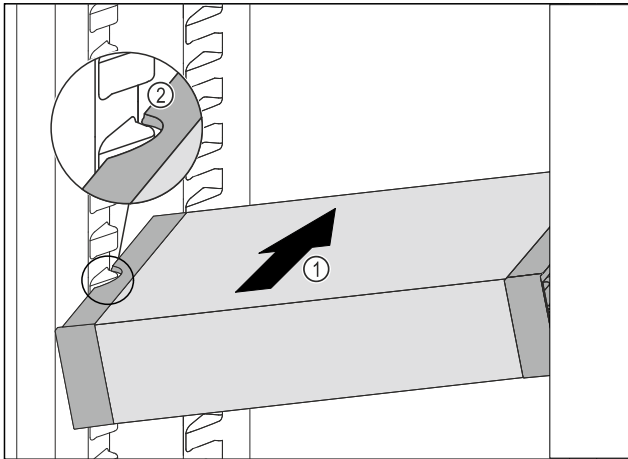

Fig. 122
- Insert the VarioSafe into the refrigerator compartment at an angle *Fig. 122 (1)* until the recesses in the side *Fig. 122 (2)* of the VarioSafe are at the level of the support rib in the refrigerator compartment.